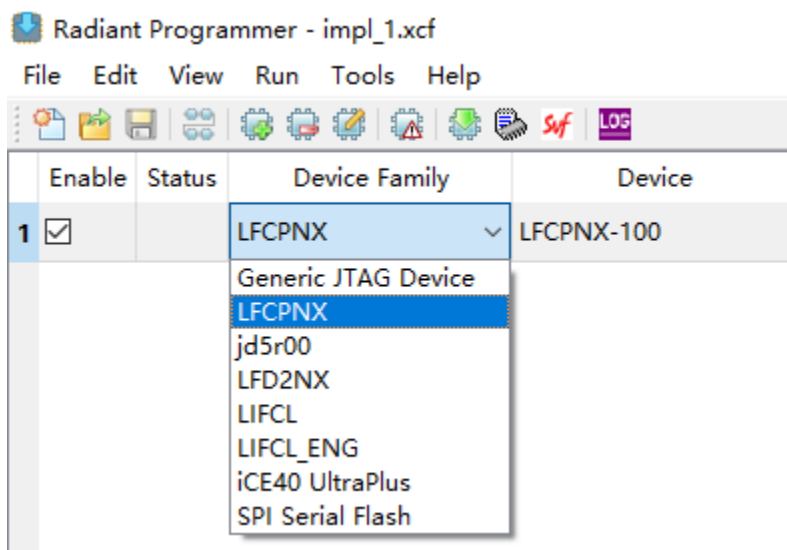

Figure 8.1. Select Device
2. Select **LFCPNX** from the **Device Family** and **LFCPNX-100** from the **Device** (Figure 8.1), skip this step if the part is scanned.